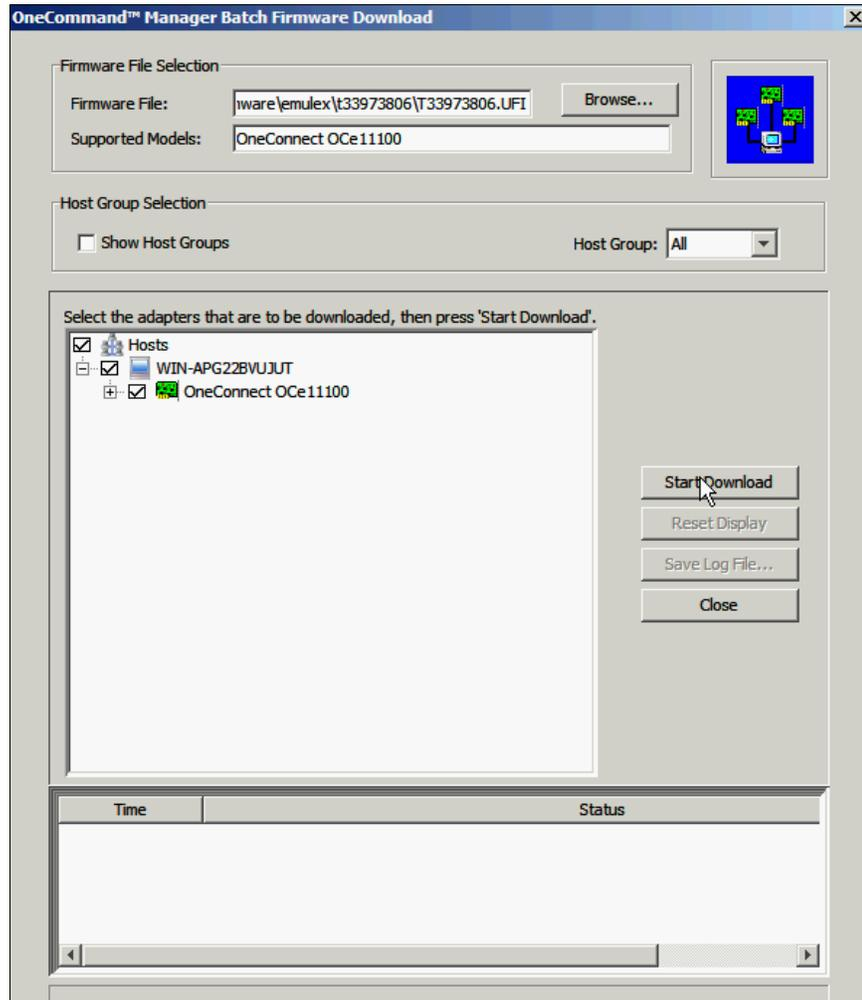

Figure 10-104 OneCommand Manager Batch Firmware Download window
- c. Back in the OneCommand Manager Batch Firmware Download window (Figure 10-104), next to the box where the adapters are selected, click **Start Download**.